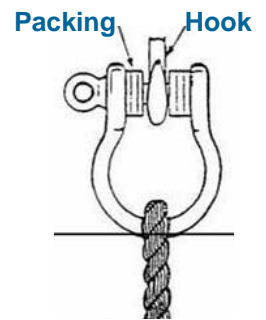

Fig. 17
- ⌚ Washers can be used to take up the space between the shackle and hook. (see Fig. 17)